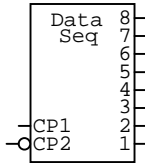

Figure 5.5. Use the Edit Pulser dialog box to change pulse ticks and set free run or external trigger mode.
- 1 Double-click the Pulser with the **Arrow Tool** to display the dialog box shown in Figure 5.5.